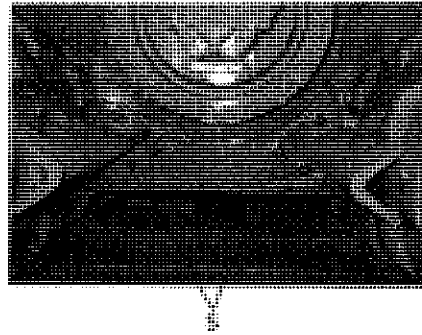

Fig. 27
- Tighten the screws " S " again. (Fig. 27)